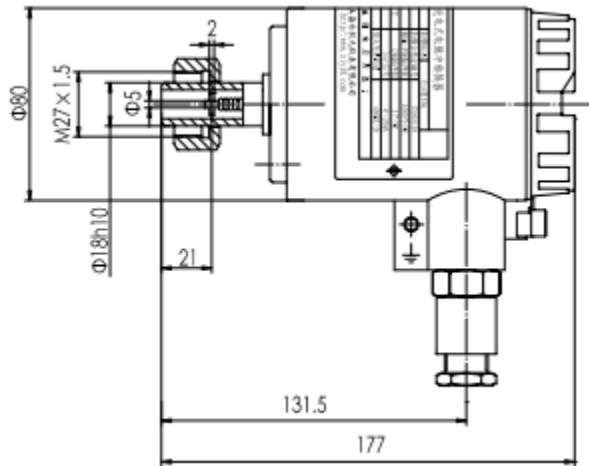

Fig.2 Converter Dimensions & Installation Diagram
(5) **Dimensions:** see Fig.2
1) Out-appearance & Dimensions (see Fig.2)
(1) Converter Installation (see Fig. 2)